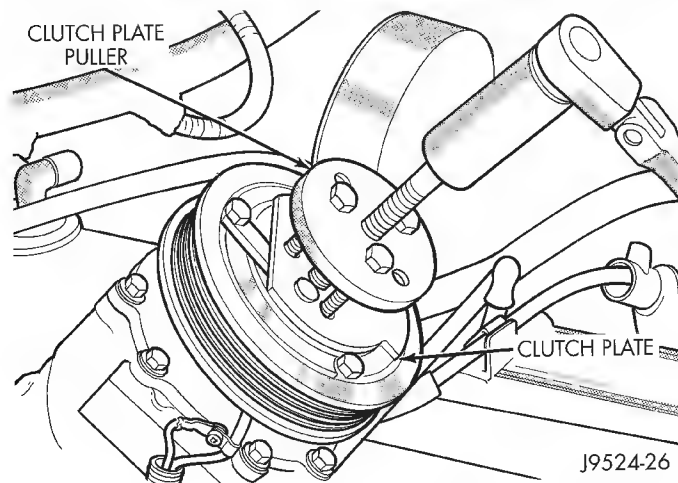

Fig. 5 Clutch Plate Puller
- (4) Remove clutch plate with puller 6461 (Fig. 5).